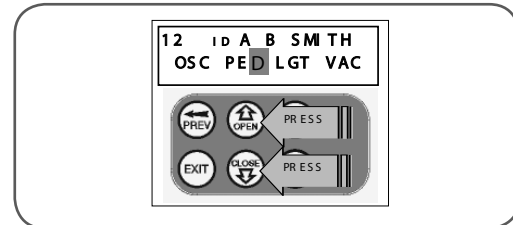

fig 25
2. Press UP or DOWN to change the displayed value (Fig. 25). The available functions are shown below. Selecting OFF will prevent the opener responding to that button.
3. Press SET to save changes or press NEXT or PREV to move to next field. The example in (Fig. 25) shows that PED is assigned to the transmitter button 2. The transmitter in the example is transmitter number 12 which has the ID label AB Smith.